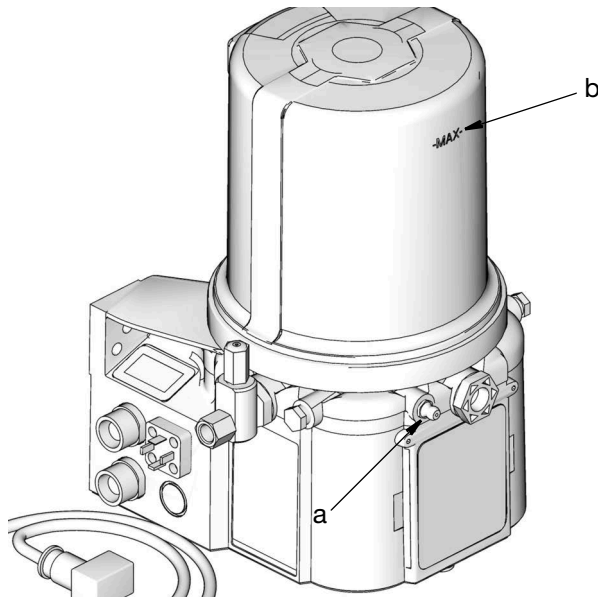

FIG. 100
1. Connect a pneumatically powered grease gun to the grease zerk (a) on the G3 pump. Fill the G3 pump reservoir with grease to the “MAX” line mark (b) on the front of the reservoir (FIG. 100).